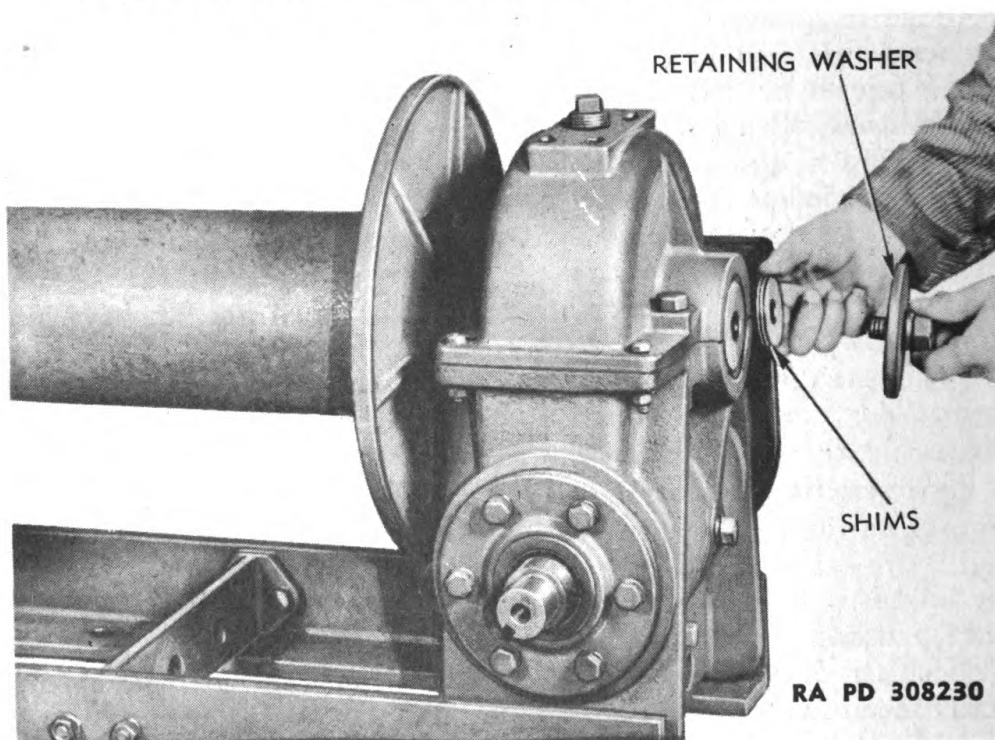

Figure 128 — Installing Drum Shaft Retaining Washer and Shims
(4) Install retaining washer with large thrust washer and lock washer in gear end of shaft. Place sufficient quantity of shims between end of shaft and thrust washer (fig. 128) to prevent binding of shaft with end frame or gear case. A very small amount of end thrust of shaft is allowable.
(5) Install drum lock on top of gear case (if it was removed), with two cap screws and lock washers. Countersunk screws go in holes toward drum.
(6) Tighten pivot bolts at lower end of end frame and gear case and tighten bolts in cross bar and base angles.